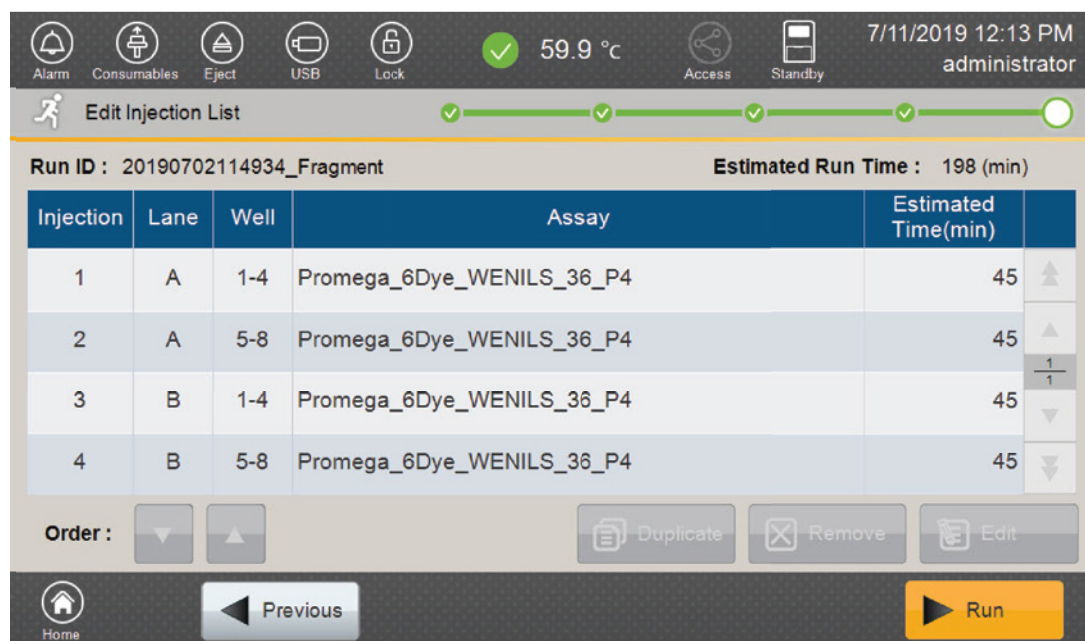

Figure 21. 'Edit Injection List' screen.
4. After the autosampler has returned to its home position, the 'Edit Injection List' screen will be displayed (Figure 21).